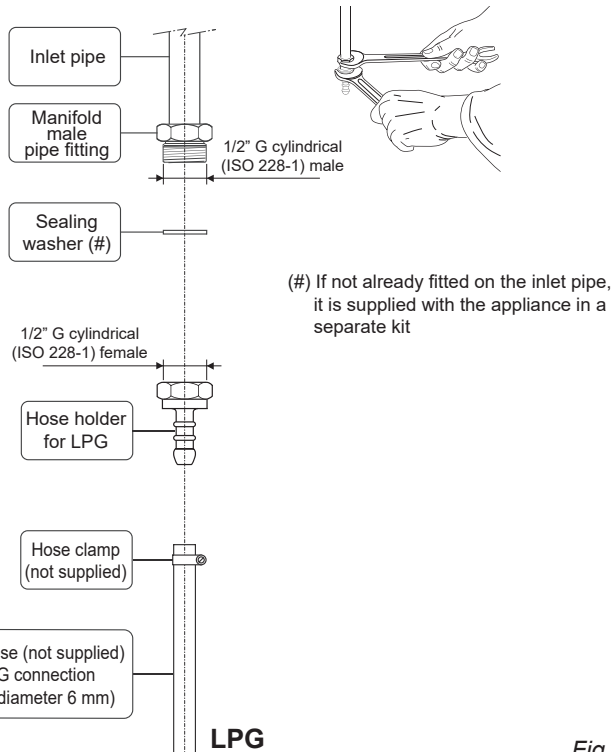

Fig. 8.2
1. If not already fitted, fit the LPG hose holder on the inlet pipe, making sure that you place the sealing washer between them (as shown in fig. 8.2).
- use two spanners when fitting the hose holder (fig. 8.2).